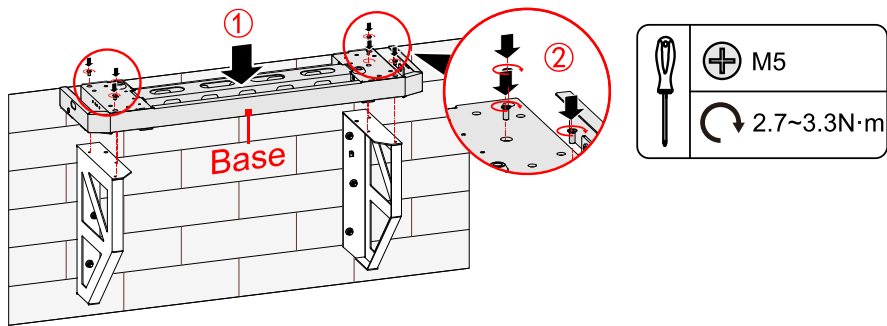

Figure3-22 Assemble the support and base
4. Assemble the support and base by screws M5, as shown in Figure3-22.